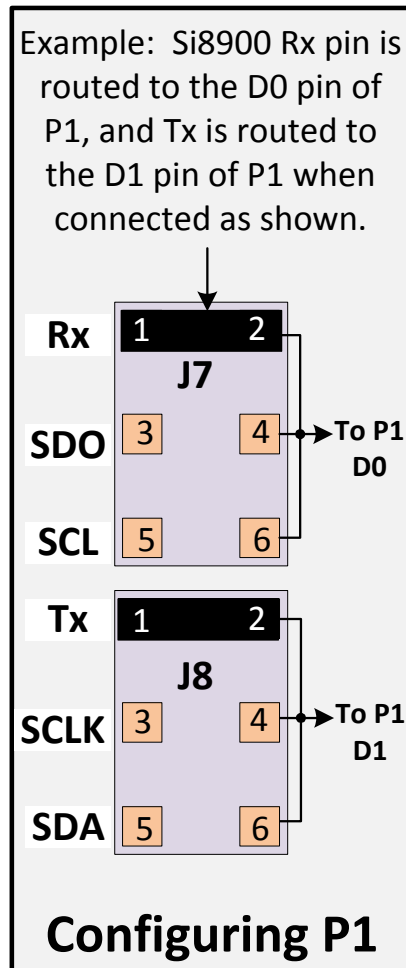

Figure 5. Configuring Output Connector P1
c. The serial port pins for the selected Si890x device are routed to output connector P1 by configuring headers J7 and J8 as shown in Figure 5.
8. Locate the male connector that mates to output side connector P1 (see Figure 5) and test fit to connector to P1. Remove the connector from P1. Cut nine equal lengths of AWG28 wire, each one eight inches long. Strip 1/4 inch of insulation from each end of all eight wires. Solder one end of each wire to each wire to the male connector. When soldering is complete, plug the male connector into P1.